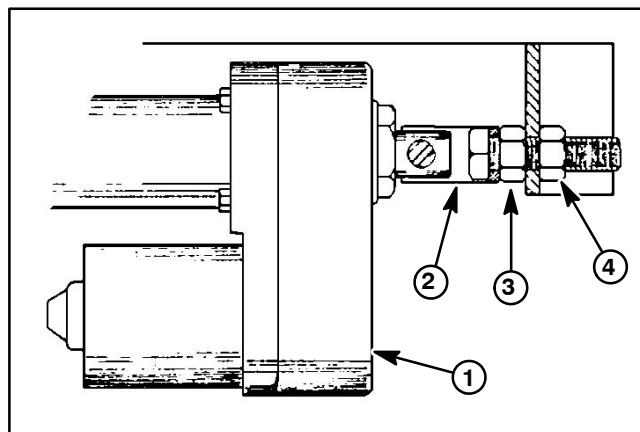

Figure 45
1. Loosen end nut that secures adjustable clevis to boom frame (Fig. 45). Position jam nut as close as possible to adjustable clevis. Tighten end nut to secure clevis.